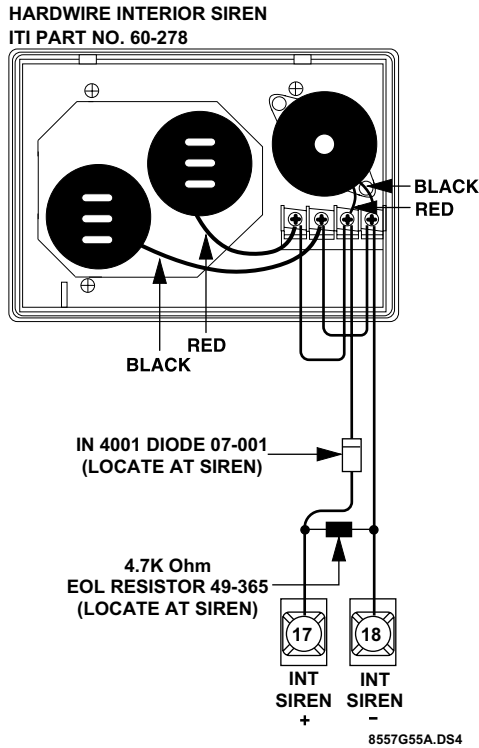

Figure 3. Supervised Siren Wiring to UltraGard and Custom Versions
1. Connect the dual piezo wires to the two left screws and the single piezo wires to the two right screws (see Figure 3).
2. Make wiring connections between the siren and the panel as shown in Figure 3.